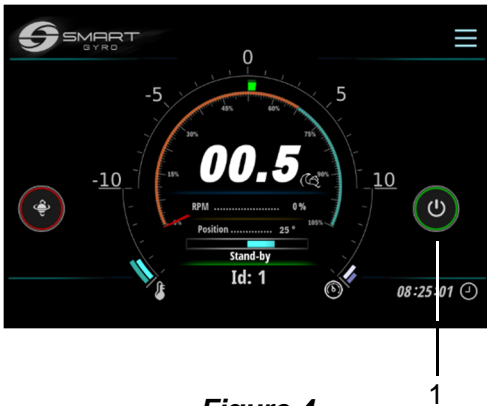

Figure 4
- Press the Power (ON/OFF) icon **(Figure 4, (1))** to power on the gyro unit.